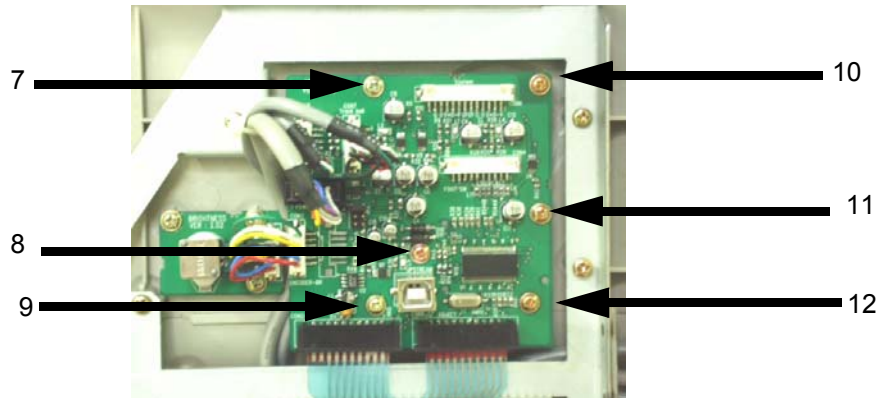

Figure 8-69 Unscrew 6 screws
- 3.) Unscrew six (6) screws (7-12) to remove HUB Board Assy. Refer to section Figure 8-69 on page 26.